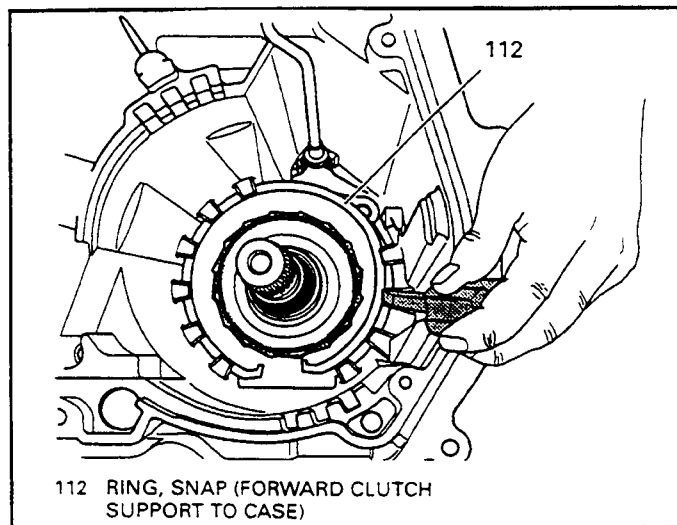

Figure 77
77. Remove the forward clutch support snap ring using a modified screwdriver (See Figure 77). This is a very strong snap ring.